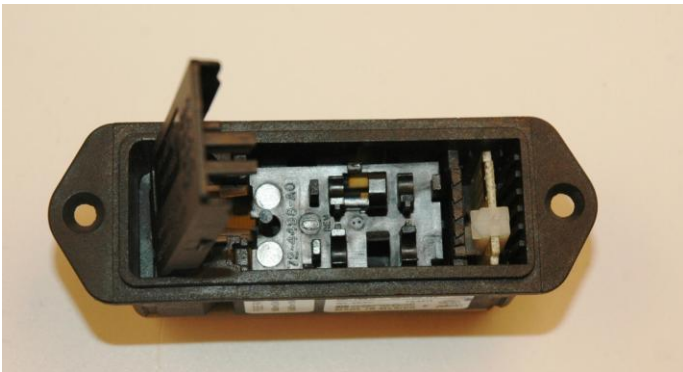

Figure 9
**Step 4:** Re-install the PCB, as shown in Figure 9, making sure that the lettering on the PCB faces into the housing and the PCB is firmly seated.